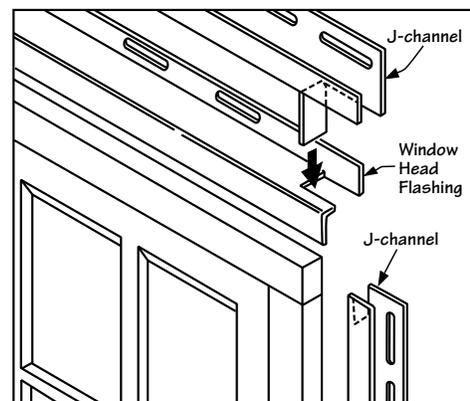

Figure 34.
- Install rigid head flashing (i.e., drip cap) on top of the top piece of exterior casing, covering trim sheet installed in the previous step. The ends of the rigid head flashing must extend to the outer edges of the exposed legs of the side J-channels. Cut a notch on the ends of the rigid head flashing and bend them down over the sides of the exterior casing. The rigid head flashing must be sealed to the exterior sheathing and to the top of the exterior casing (Fig. 34).
- Miter cut the free flange at a 45° angle and bend the tab down to provide flashing over the side members (Fig. 34). A similar miter and tab may be provided at the bottom of the window, depending on the sill's condition. The J-channel should fit snug to the window.